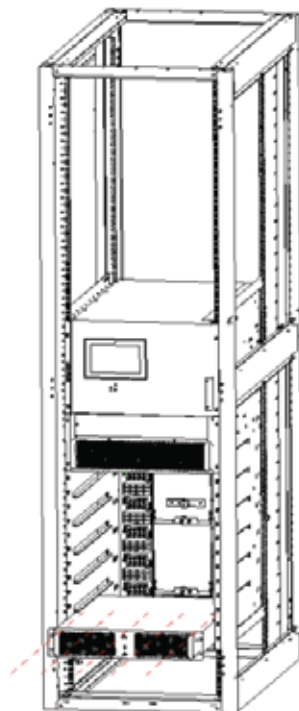

Figure 3-9 Installation schematic diagram
4. Insert the module into the UPS cabinet and lock the module panel screws, as shown in Figure 3-9.